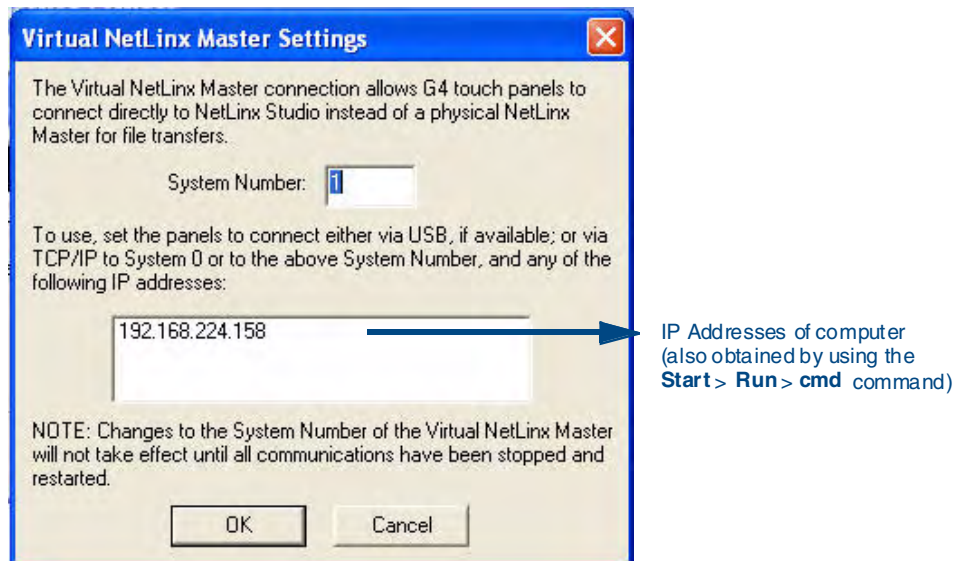

FIG. 42 Virtual NetLinx Master Settings dialog box
6. Click the **Edit Settings** button in the *Communications Settings* dialog to open the *Virtual NetLinx Master Settings* dialog (FIG. 42).